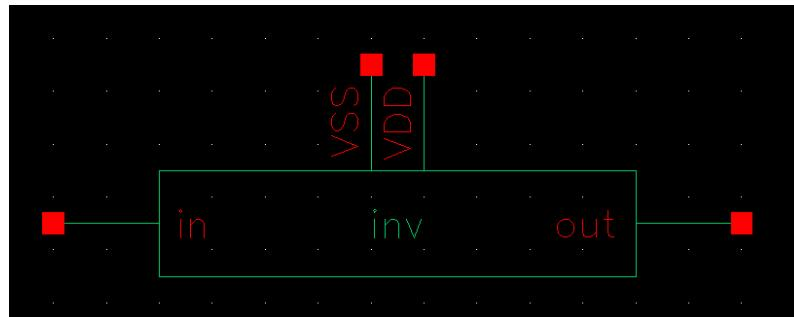

Figure 9: Create symbol
- Click *Create > Cellview > FromCellview*, and click "OK" in the next two popped out windows. Finally, you will see Fig. 9. You can change the shape and name of the symbol by using previous introduced editing commands.